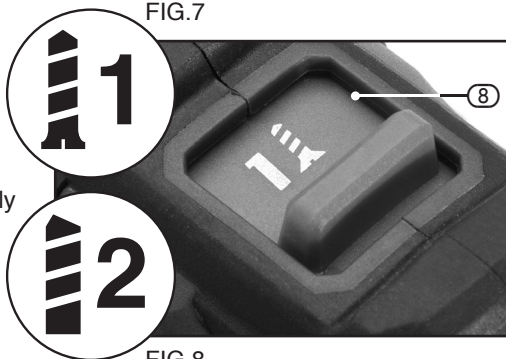

FIG.8
9.5 TWO SPEED GEAR BOX – FIG.8